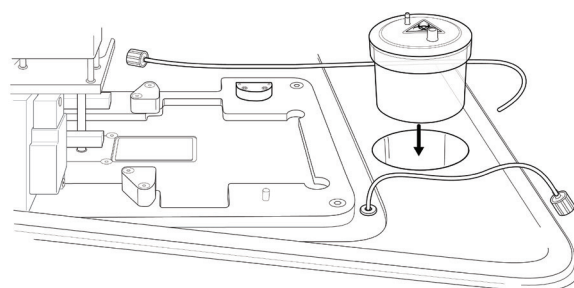

Fig. 14. Place waste jar in position.
3. Place Waste Jar in position at the base of the station bays nearest the user (Figure 14).